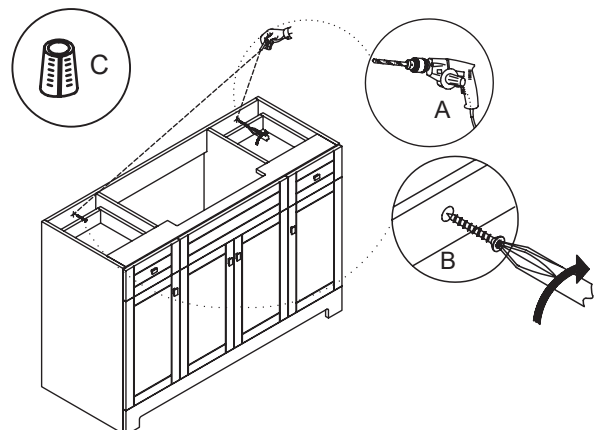

Figure 2
- 5: Secure the vanity to the wall by inserting (x 2) #8 x 2" screws (B - not included) through the back rail of the vanity. Figure 2. It is recommended that the vanity be installed to at least one wall stud. If you are unable to locate wall studs, it is recommended that you use wall anchors (C - not included) to secure the vanity.